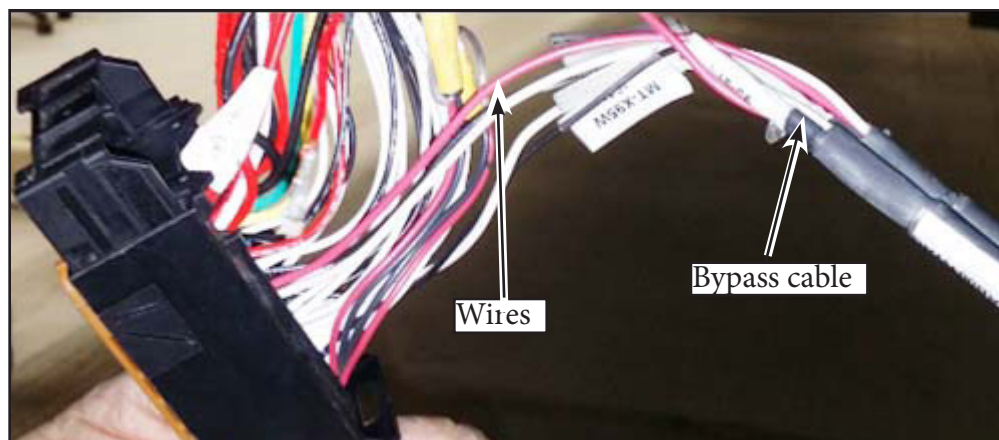

Figure 33 - Disconnect the Bypass Cable Terminals From the ECM Connector
- 2.20. Remove the electric cloth tape covering the wires entering the ECM connector. Disconnect wires at positions 9, 10, 33, 61 and 64 from the previously-installed bypass cable kit, then cut and tape back (see Figure 33).